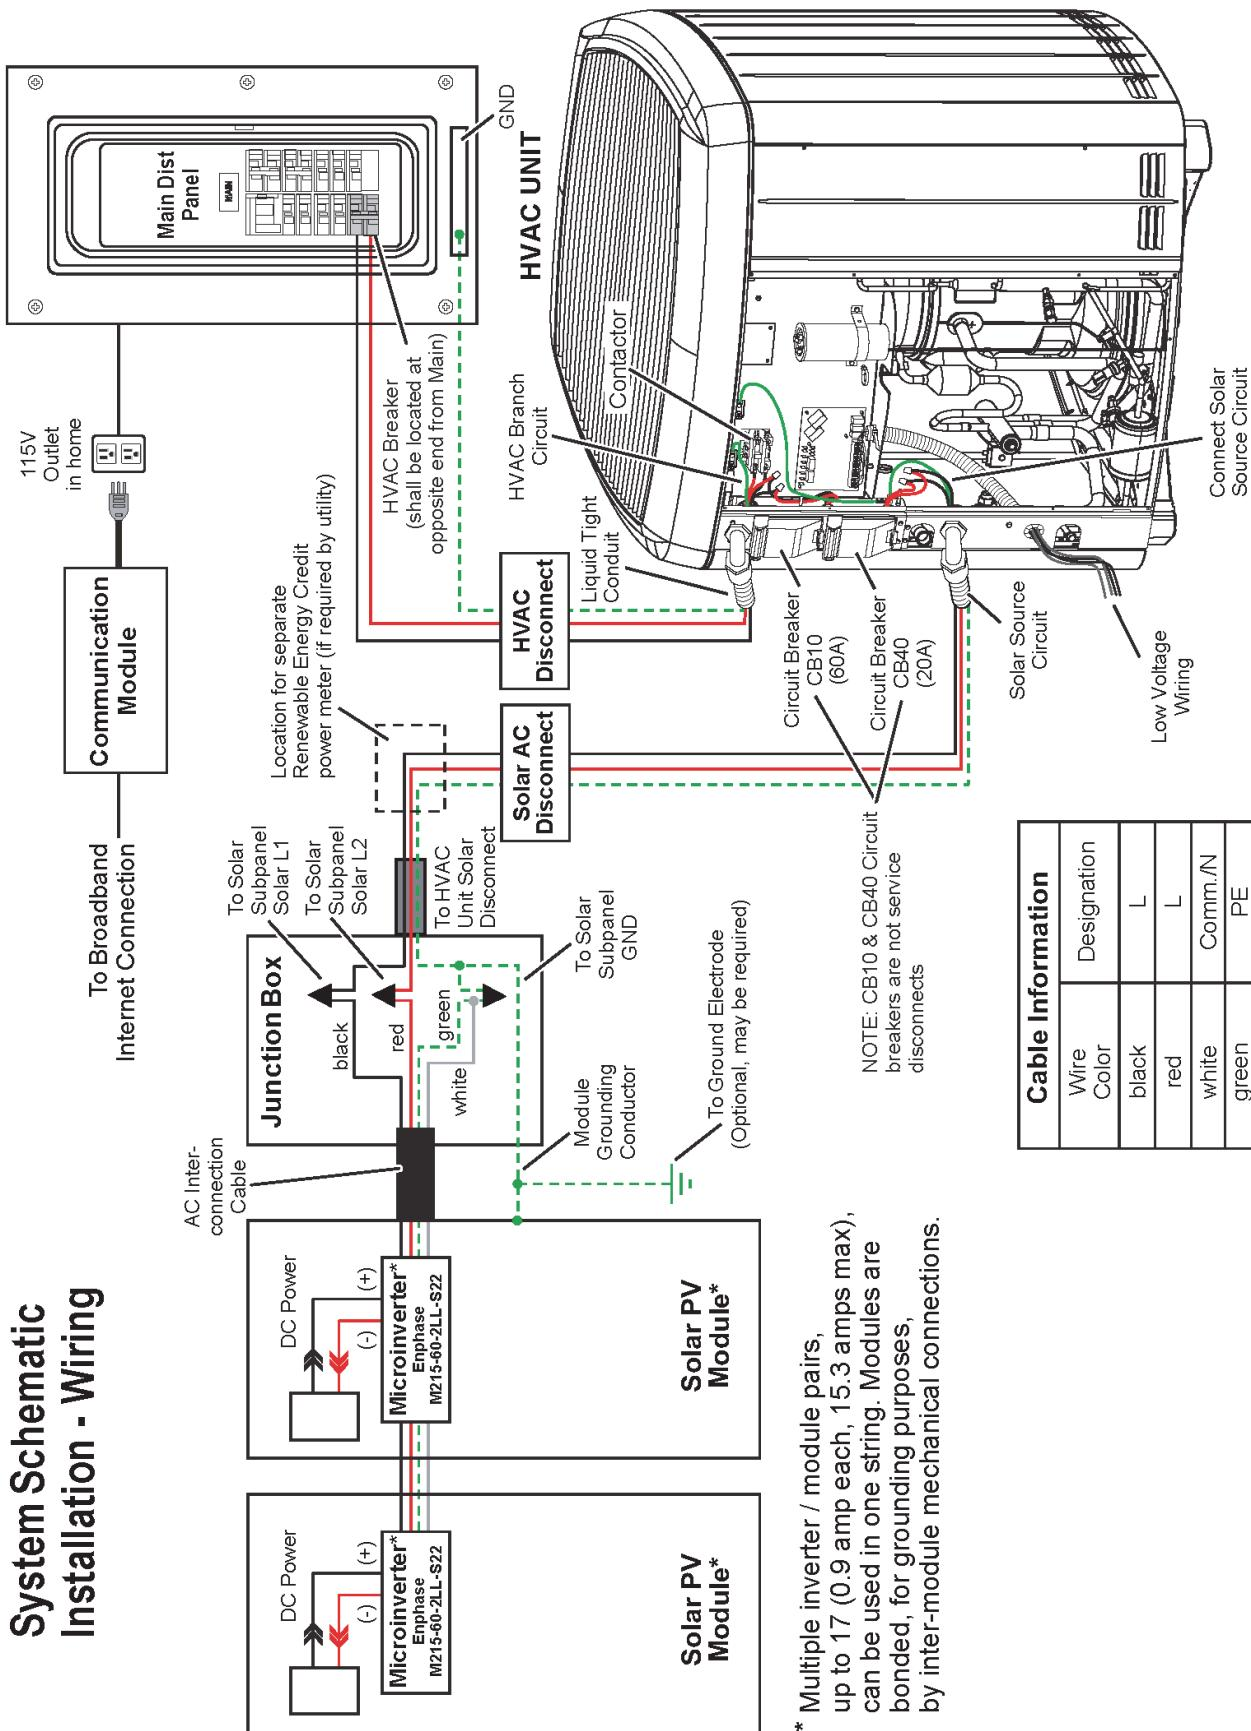

Figure 18. SunSource® Home Energy System Electrical Layout
- A** Turn ON the AC disconnect or circuit breaker on the microinverter AC branch circuit. Check the voltages on the AC interconnection cable pins to ensure proper wiring. **Please verify proper AC cable voltage prior to connecting to live voltage or connecting the harness to the Andalay AC string (see figure 18).** Failure to properly connecting the wires can result in severe damage and void the warranty.